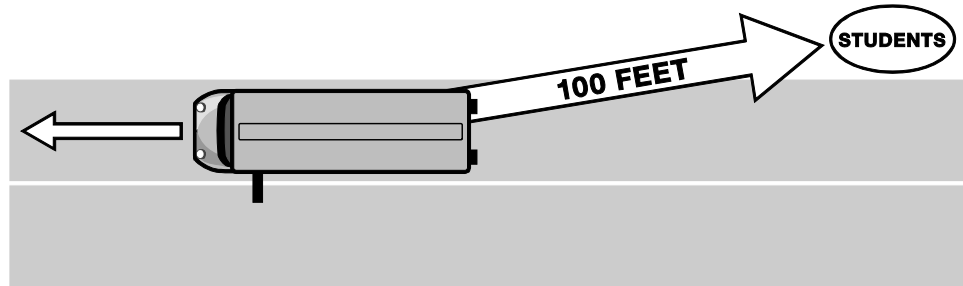

Figure 12-1. A Safe Place after Evacuation.
- A safe place is at least 100 feet (approximately 40 paces) off the road, in the direction of oncoming traffic (Figure 12-1). This will keep students from being hit by debris if another vehicle collides with the bus.